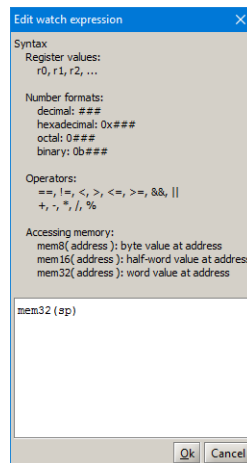

Figure 48. The Edit Watch Expression window.
3. The *Edit Watch Expression* window will appear, as shown in Figure 48. The desired watch expression can then be entered, using the syntax indicated in the window. In the figure, the expression `mem32(sp)` is entered, which will display the value of the data word at the current stack pointer address.